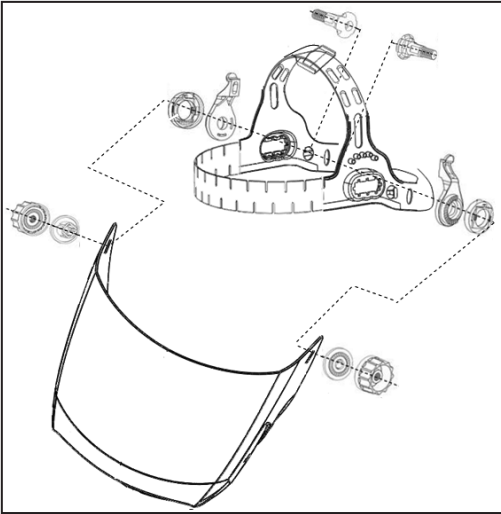

FIG. 1
6.1 HEADBAND INSTALLATION – FIG.1